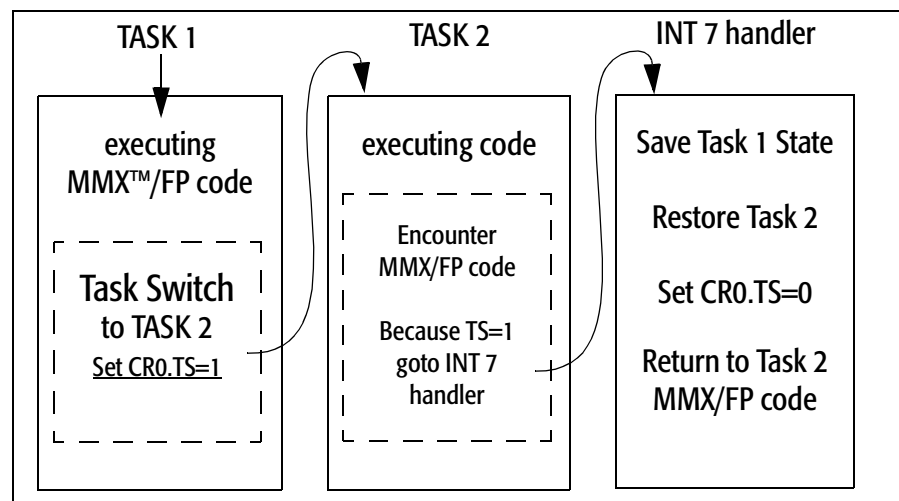

Figure 4. Preemptive Task Switching
There are different types of cooperative multitasking operating systems. Some of these operating systems perform some level of state saves, but this state saving is not always reliable. All software engineers programming for a cooperative multitasking environment must save the MMX or floating-point states before relinquishing control to another task or to the operating system. The FSAVE and FRSTOR commands are used to perform this task. Figure 4 illustrates this task switching process.
In a preemptive multitasking operating system, if a task switch occurs, the operating system sets the Control Register 0 (CR0) Task Switch (TS) bit to 1. If the new task encounters a floating-point or MMX instruction, an interrupt 7 (int 7, Device Not Available) is generated. The int7 handler saves the state of the first task and restores the state of the second task. The int7 handler sets the CR0.TS to 0 and returns to the original floating-point or MMX instruction in the second task. Figure 4 illustrates this task switching process.